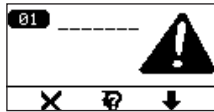

Figure 32
- If a sensor failed to activate, the following screen will be displayed (Figure 32). If this occurs, ensure that the tool is placed at the correct position around the tire and retry the sensor activation by pressing the Learn  button.